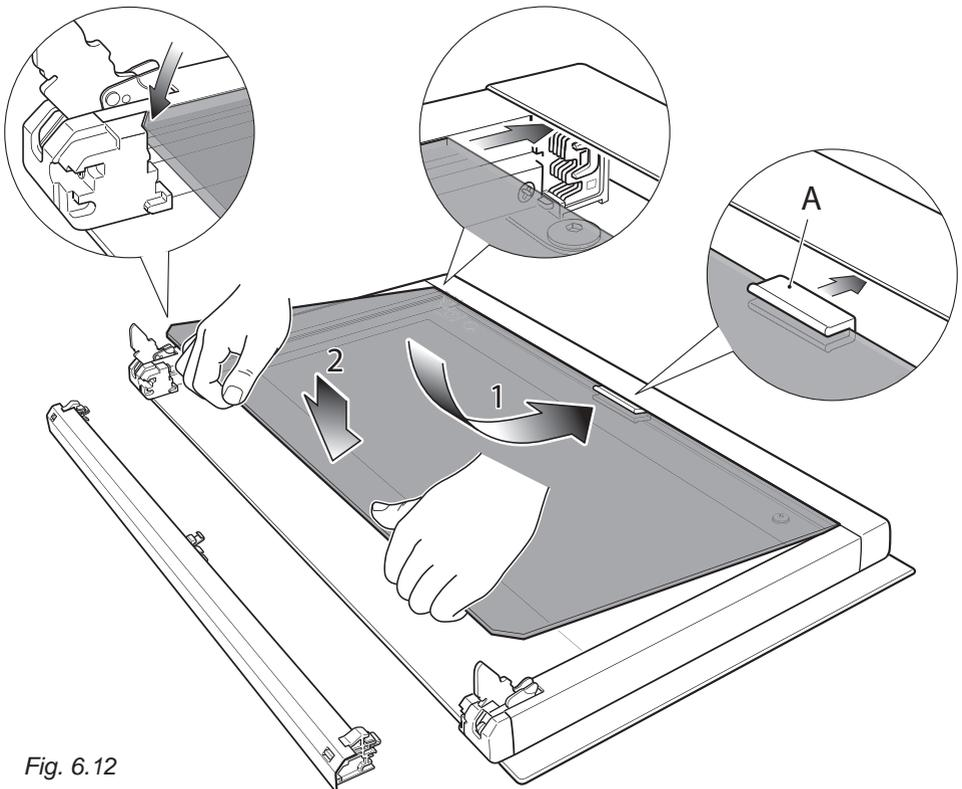

Fig. 6.12
- Check that the gasket "A" is in place (fig. 6.12). If not, correctly place the gasket in the top edge of the inner glass (in the centre).
1. Insert the inner glass pane in the uppermost pair of grooves and push it slightly (arrow 1 in figure 6.12).
2. Gently lower into place (arrow 2 in figure 6.12).